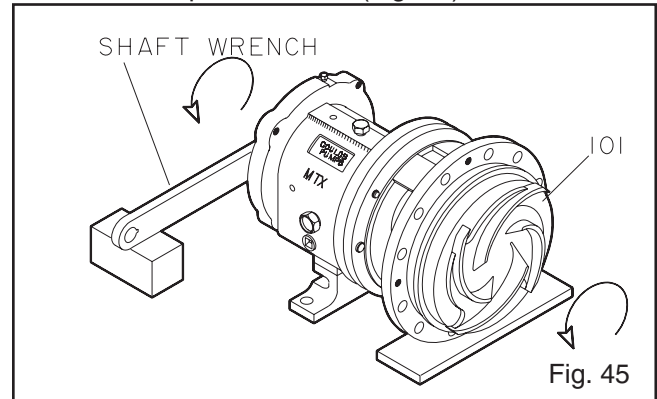

Fig. 45
- Slide ITT Goulds shaft wrench (A05107A or A01676A) over the shaft (122) and key.
- Quickly turn the impeller counterclockwise (viewed from the impeller end of the shaft), impacting the wrench handle on the workbench or a solid block until the impeller loosens (Fig. 45).
3. Slide ITT Goulds shaft wrench (A05107A) over the shaft (122) and key.
5. Quickly turn the impeller counterclockwise (viewed from the impeller end of the shaft), impacting the wrench handle on the workbench or a solid block until the impeller loosens (Fig. 45).